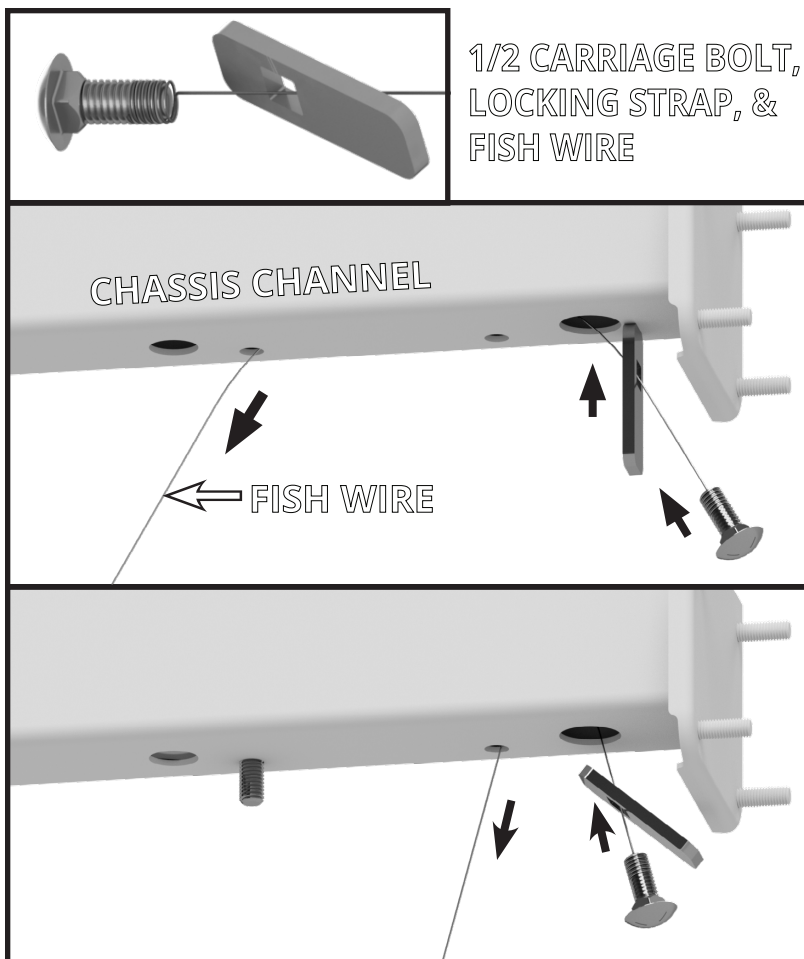

FIGURE A4: VIEW OF PASSENGER SIDE CHASSIS CHANNEL
4. Thread a carriage bolt and locking strap onto a fish wire. Pass the non-coiled end of the fish wire into the large hole at the end of the chassis channel through the channel and into the smaller forward hole, as shown in Figure A4. Insert the locking strap and carriage bolt into the channel through the large hole. Pull on the fish wire to bring the carriage bolt through the smaller hole.
5. Repeat the process described in Step 4 and place a carriage bolt into the smaller rearward hole as shown in Figure A4.